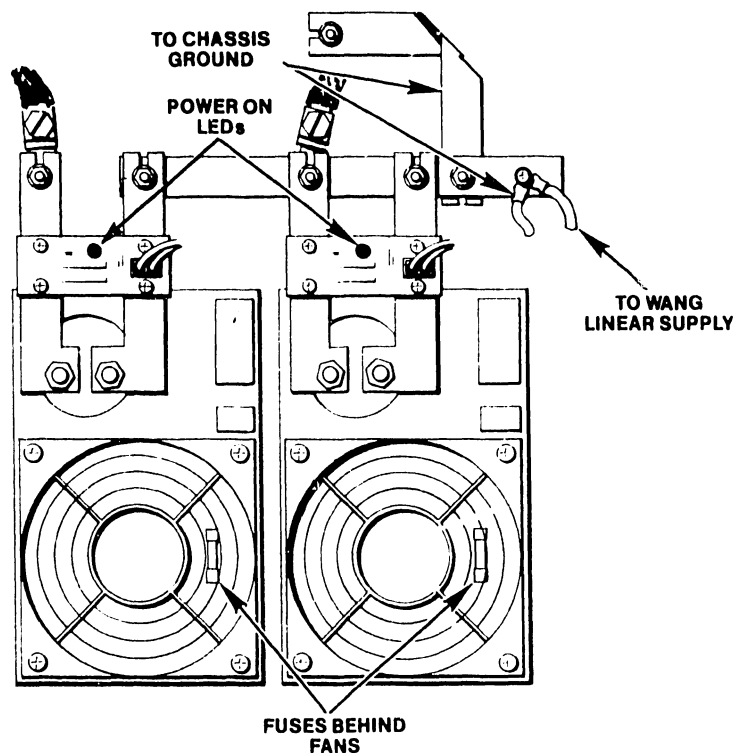

FIGURE 7-16 LINEAR SUPPLY GROUND BAR
7. If both supplies were removed as a single unit, remove an individual supply by detaching it from the ground bar. This bar has been designed for use with power supplies of various dimensions. The arms securing the supply to the bar are adjustable allowing the use of power supplies from several different vendors. (See Figure 7-16.)
Each +5V power supply has its own fuse, located behind the muffin fan at the front of each supply (see Figure 7-16). If a +5V supply is not functioning, inspect this fuse first before removing the supply.